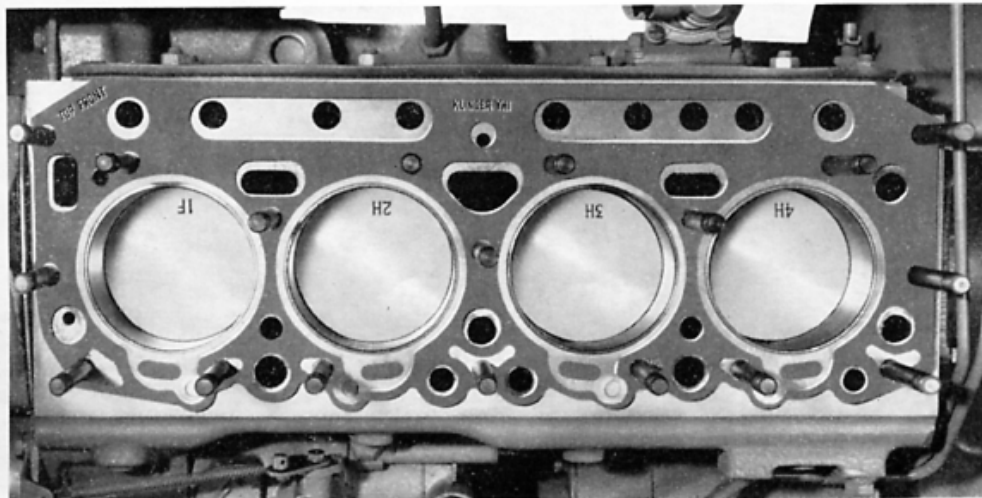

Fig. G.19.
1. Place cylinder head gasket in position (the gasket is marked "TOP FRONT"). (Fig. G.19 shows a 4.108 engine gasket).